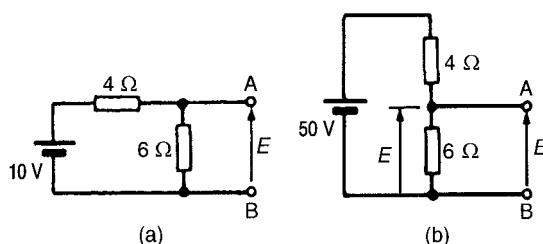

Figure 13.29
- (ii) The open-circuit voltage, E , across terminals AB in Fig. 13.29(a) is the same as the voltage across the 6Ω resistor. The circuit may be redrawn as shown in Fig. 13.29(b)